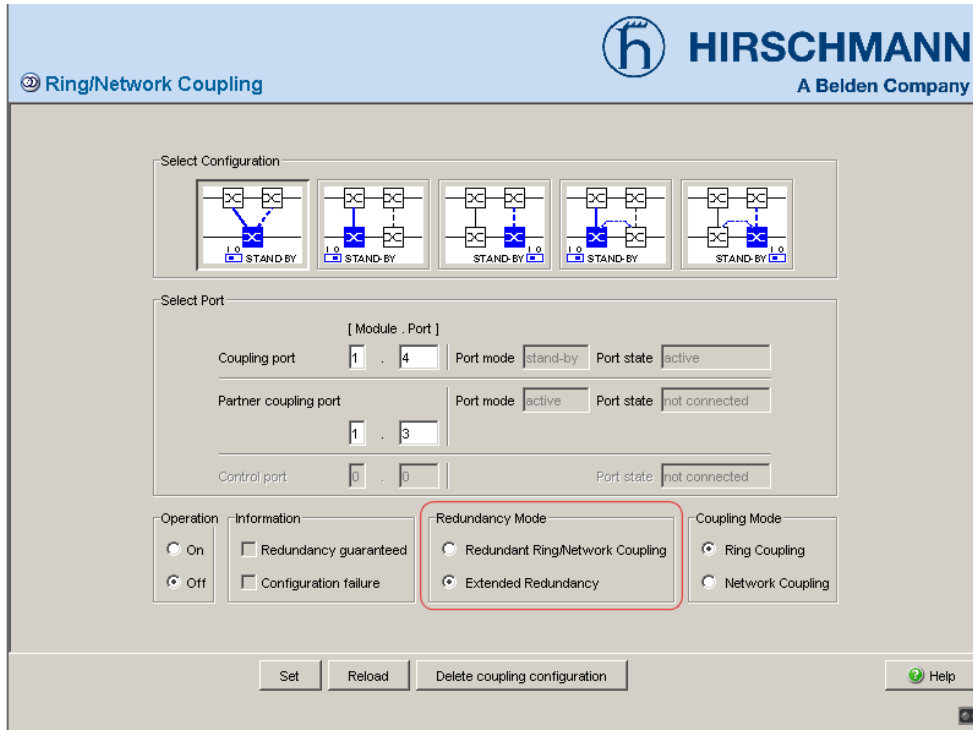

Figure 42: Selecting the redundancy mode
- In the “Redundancy Mode” frame, select (see fig. 42)